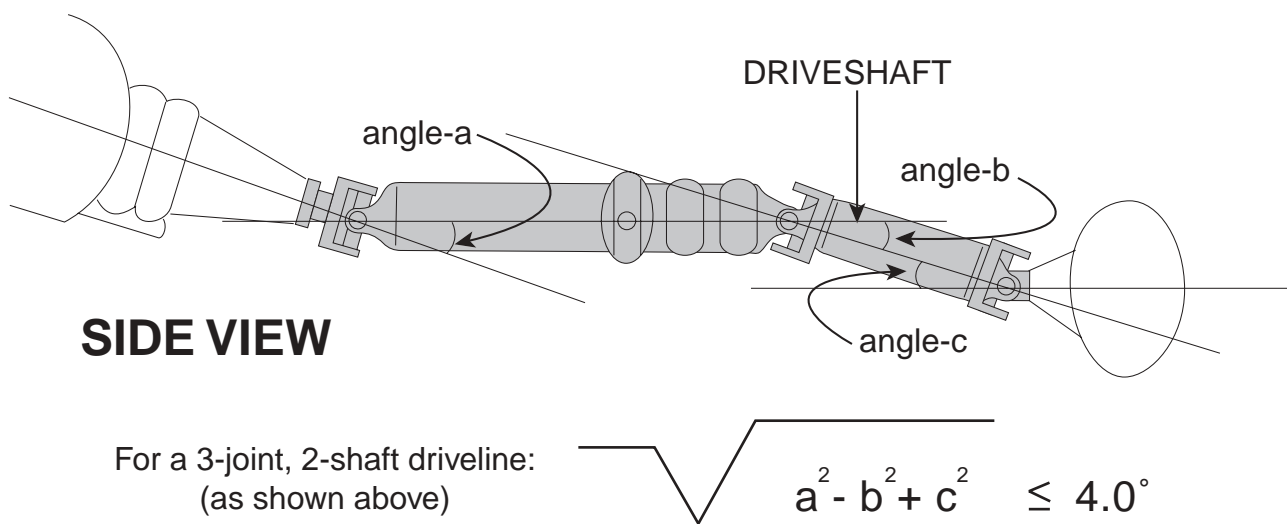

Figure 19
- Refer to figure 19 and the Checking Driveline Angles section at this time. If angles are acceptable, proceed with torquing the U-bolts and pivot bolts.
- Condition #2: When added together, the operating angles throughout the driveline **MUST** cancel. The operating angles at either end of a shaft should be within 1° of each other or at least satisfy the following formula in order to provide adequate cancellation (Figure 19).